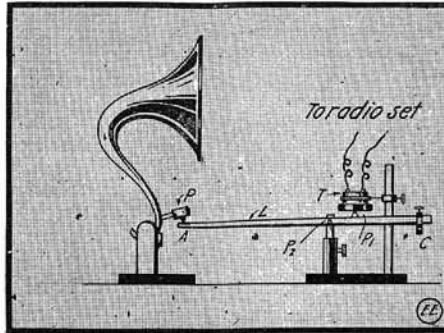

Fig. 3. Amplifying by Lever Action.
It is well to cover the mineral with oil, as depicted at Fig. 3, to keep the crystal
The old principle of unbalanced lever action is employed in the arrangement indicated at Fig. 3. In this outfit, as shown, a delicately pivoted lever L is caused to act on the phonograph reproducer stylus P, at A, whenever the opposite end of the lever point P1 is acted upon by the movement of radio receiver (T) diaphragm. As is well known, if the lever is pivoted at P2, or off center, then an increased motion radius is given at A, compared to the motion radius imparted at P1, and which difference in movement amplitude is directly proportional to the ratio existing between the long and short arms of the lever L. A, C is a balance weight. The pivot P2 is movable up or down on fulcrum rod with setscrew and sleeve as indicated.